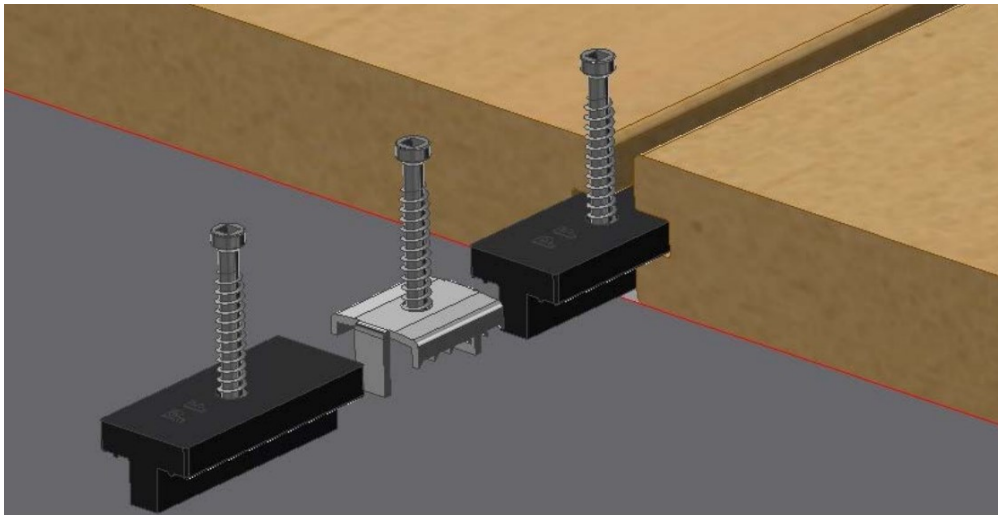

Figure 5
2) Slide the locking Clips and Plastic Clips in along the groove. (Figure 5)